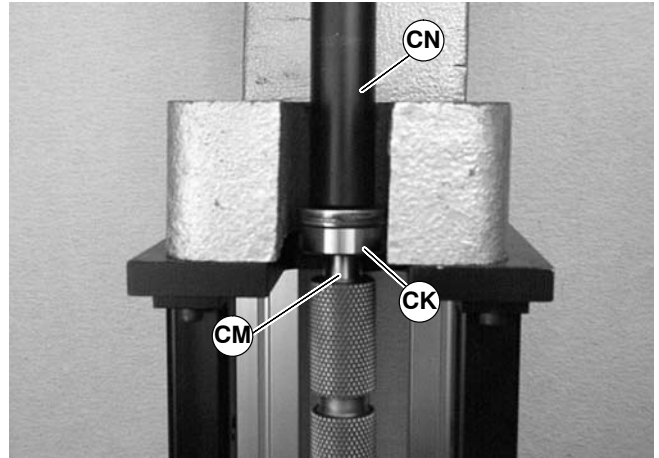

Figure 53
3. Place the shaft of tool (part # 450282) (CN of Figure 53) over pulley shaft (CM).